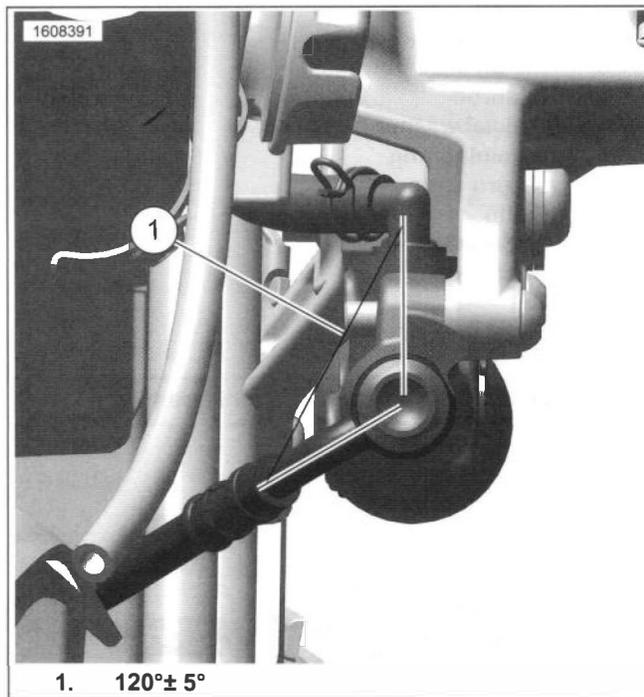

Figure 3-29. Rear Master Cylinder Brake Line Location
See Figure 3-29. Record position of brake line before removing.
- a. Attach ABS module to rear brake master cylinder line (9) to master cylinder (8) with banjo bolt (10) and **new** gasket washers (11).
- b. See Figure 3-29. Position brake line as shown.